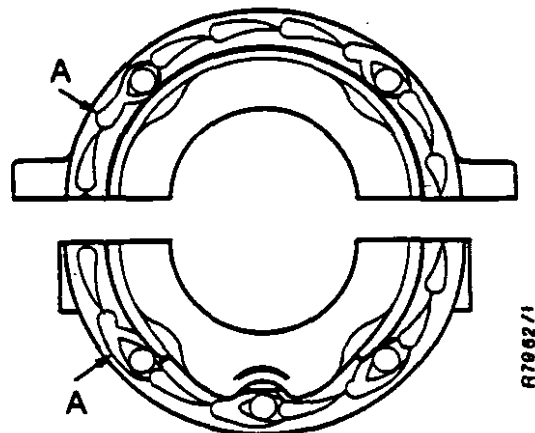

Figure 11. POSITION OF GASKET ELIMINATOR
2. Put a thin strip of Loctite Superfast Gasket Eliminator 504 on the face of the retainer. See Figure 11.